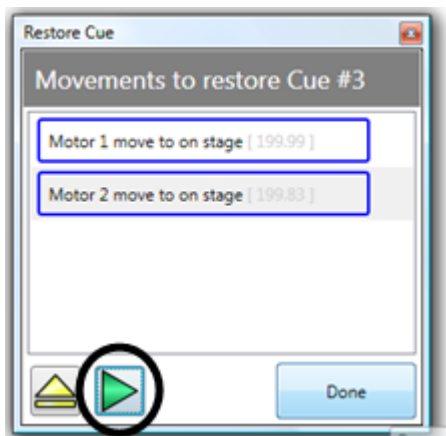

Figure 266
4. After one movement is loaded, you can press the **Run** button in the **Restore Cue** window (Figure 266). Then—if it is safe—load the next movement and run it as well. *In the example below, two movements are running concurrently by starting Motor 2 before Motor 1 completes.*